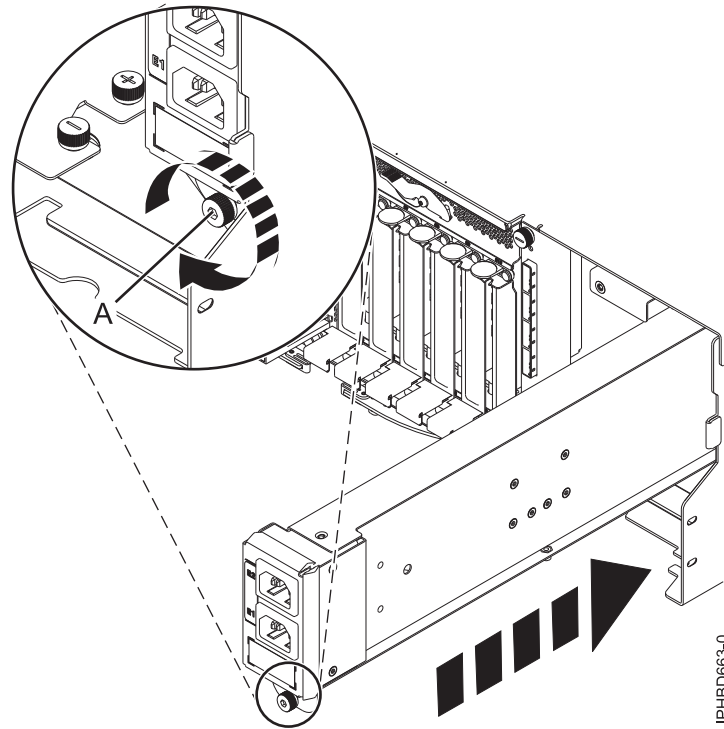

Figure 30. Replacing an input power distribution assembly
5. Push the input power distribution assembly into the expansion unit until it latches into place, and then tighten the thumbscrew (A) to secure the assembly in place as shown in Figure 30 on page 29.